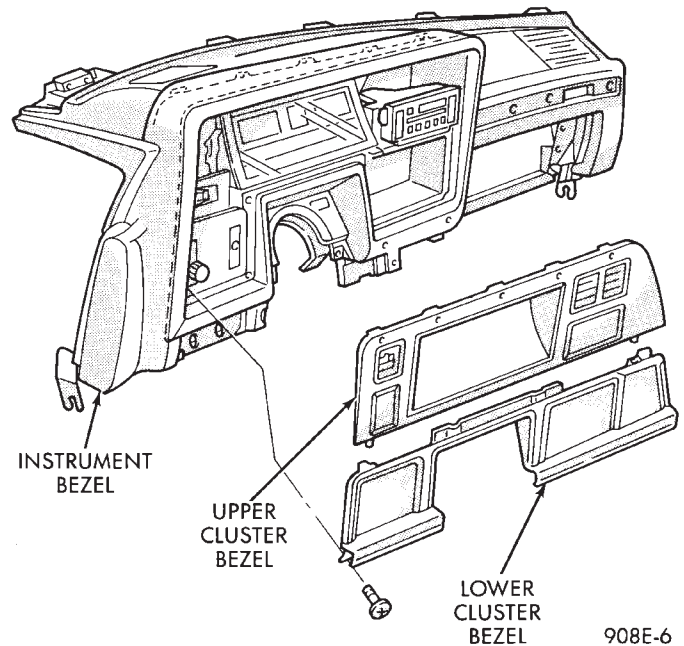
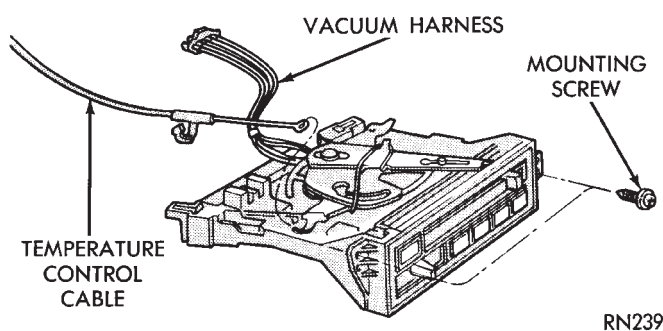

Fig. 31 Cluster Bezel
Fig. 33 A/C Control
- (1) Remove upper cluster bezel (Fig. 31).
- (2) Remove two control mounting screws.
(3) Slide control rearward, disconnect cable, vacuum harness and electrical wiring (Fig. 33).
(1) Remove cluster bezel (Fig. 31).